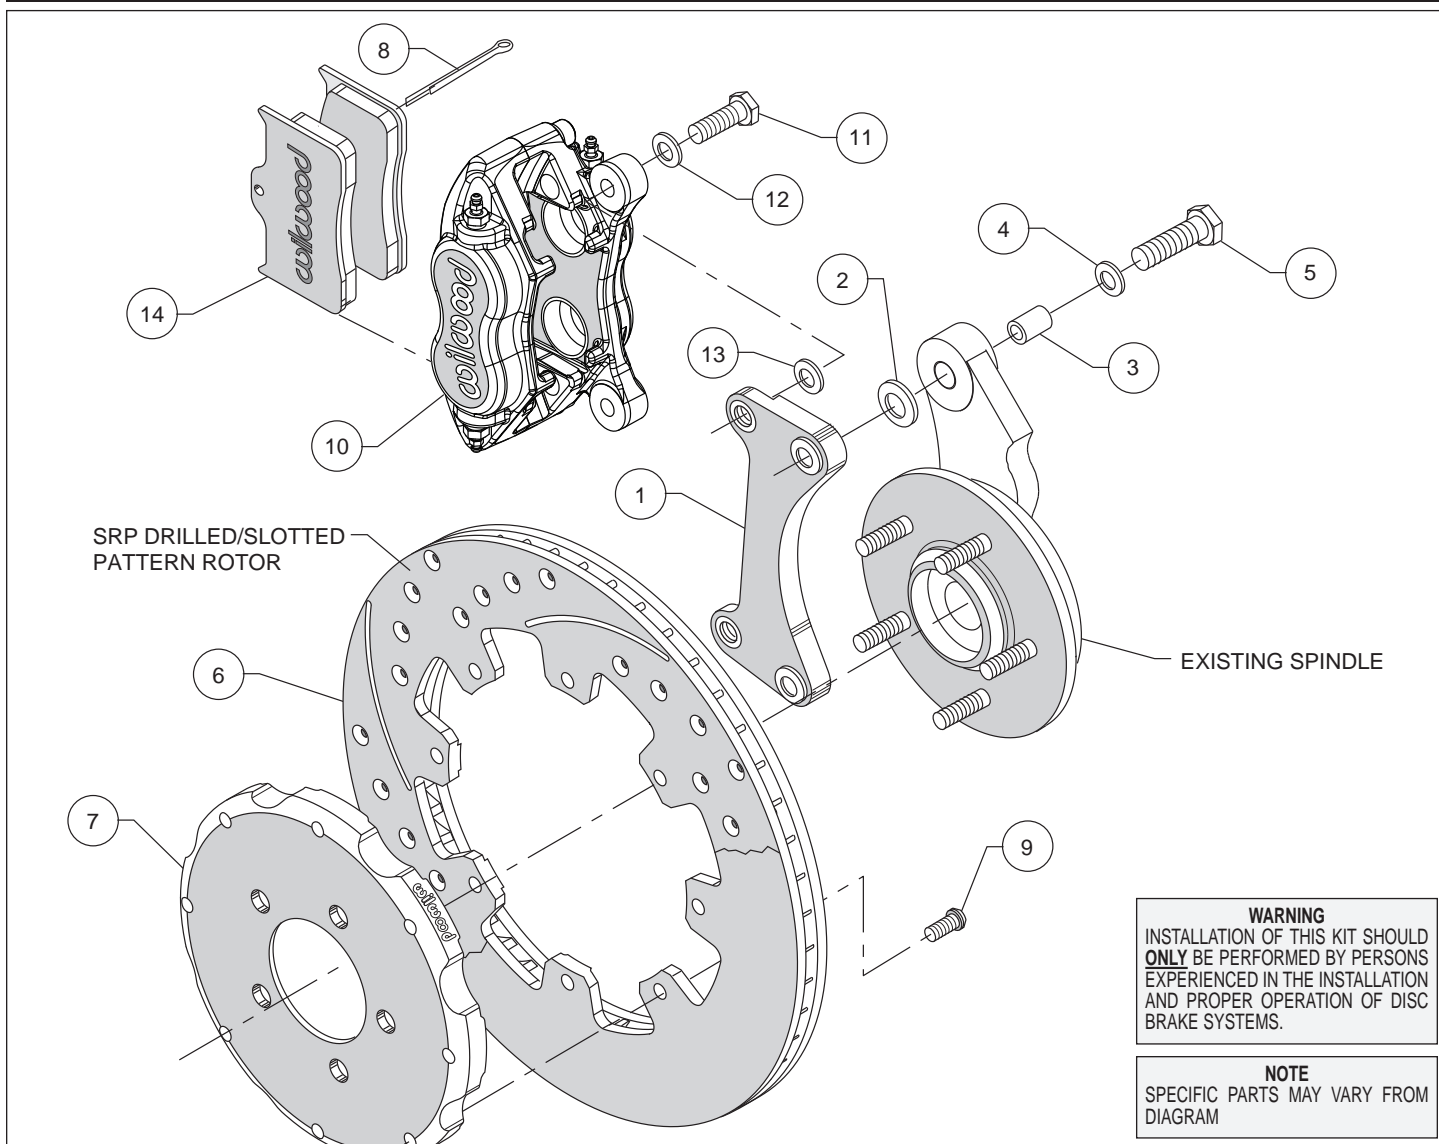
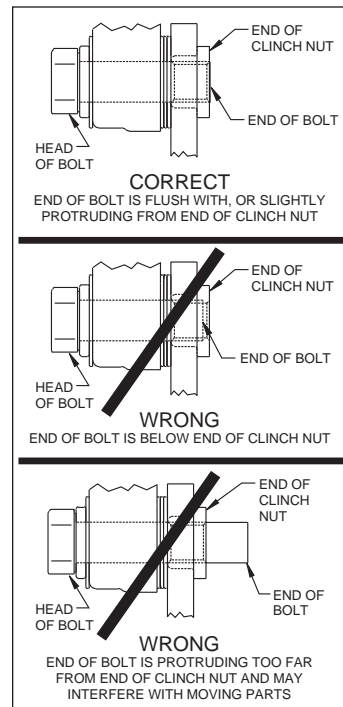

Figure 1. Typical Installation Configuration, Left Hand Application Shown
Figure 3. Clinch Nut Engagement Diagram
Assembly Instructions (numbers in parenthesis refer to the parts list and Figure 1 on the preceding pages): **CAUTION:** All mounting bolts must fully engage clinch nuts. Be sure to check that all bolts are either flush or protruding through flanged side of clinch nut after shimming, Figure 3.
- Insert one sleeve (3) into each hole of the spindle “ears”, Figure 1. Orient the caliper mount bracket (1) as shown in Figure 1, and install using bolts (5) and washers (4). Position .125 thick spacer (2) between the spindle and bracket as shown in Figure 1. Ensure that the flanged heads of the clinch nuts in the bracket are facing outboard, Figure 1. Temporarily tighten the mounting bolts. **NOTE:** The bracket must fit squarely against the mount bosses on the upright. Inspect for interference from casting irregularities, machining ridges, burrs, etc. Remove bolts one at a time, apply red *Loctite*® 271 to the threads and torque to 60 ft-lb.
- Orient the rotor (6) and the hat (7) as shown in Figure 1 and Photo 1. Attach rotor to hat using bolts (9). Using an alternating sequence, apply red *Loctite*® 271 to the threads, and torque to 25 ft-lbs.
- **NOTE:** Please reference the caution statement at the beginning of the assembly instructions. Mount the caliper (10) onto the caliper mounting bracket (1) using bolts (11) and washers (12), as shown in Figure 1. Initially place one .035" thick shim (13) on each bolt between the caliper and the bracket, Photo 2. Temporarily tighten the mounting bolts and view the rotor (6) through the top opening of the caliper. The rotor should be centered in the caliper, Photo 3. If not, adjust by adding or subtracting shims between the bracket and the caliper. Always use the same amount of shims on each of the two mounting bolts. **NOTE:** The end of each bolt must be flush with or slightly protruding from the head of the clinch nut, as shown in Figure 3. If necessary place spare shims between washer (12) and caliper mounting ear to achieve the proper clinch nut engagement. Once the caliper alignment and clinch nut engagement are correct, remove the bolts one at a time, apply red *Loctite*® 271 to bolt threads, and torque to 40 ft-lb.